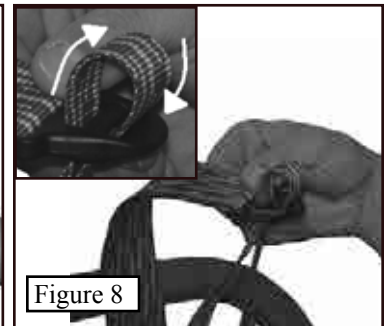
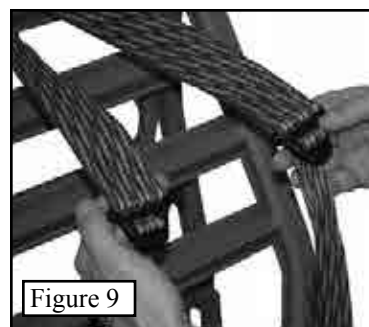

Figure 8
Figure 9
Step 2. Thread the loose end of each 1" strap through the buckle on the 2" strap as shown in **Figure 8**. The completed assembly should look like **Figure 9**.